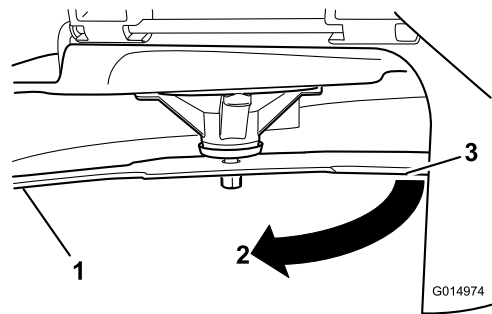

Figure 116
3. Measured distance between blade and the surface (A)
4. Rotate the same blade 180 degrees so that the opposing cutting edge is now in the same position (Figure 116).